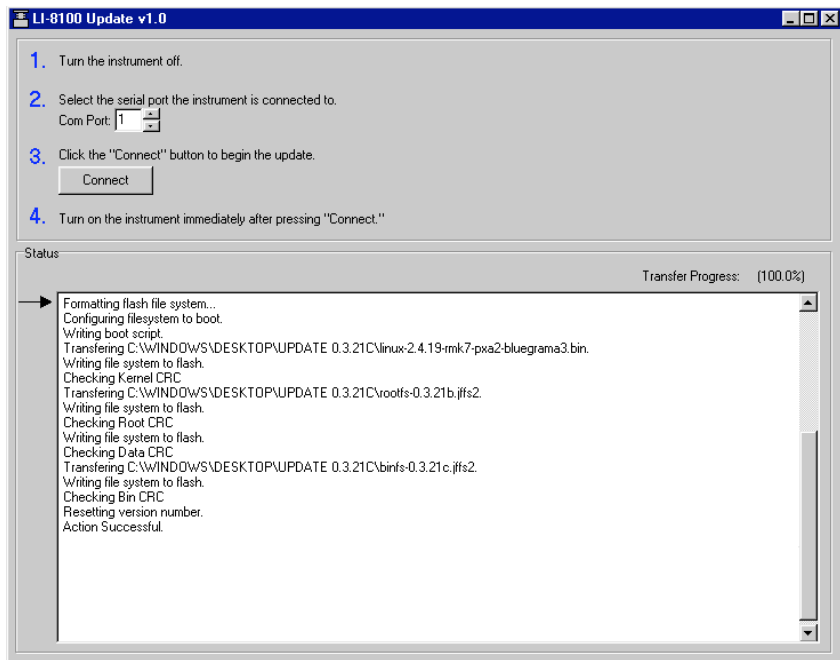

Figure 11-1. Progress messages appear in the Update window.
6. The update will begin. A series of messages will appear in the window, as shown in Figure 11-1 below.